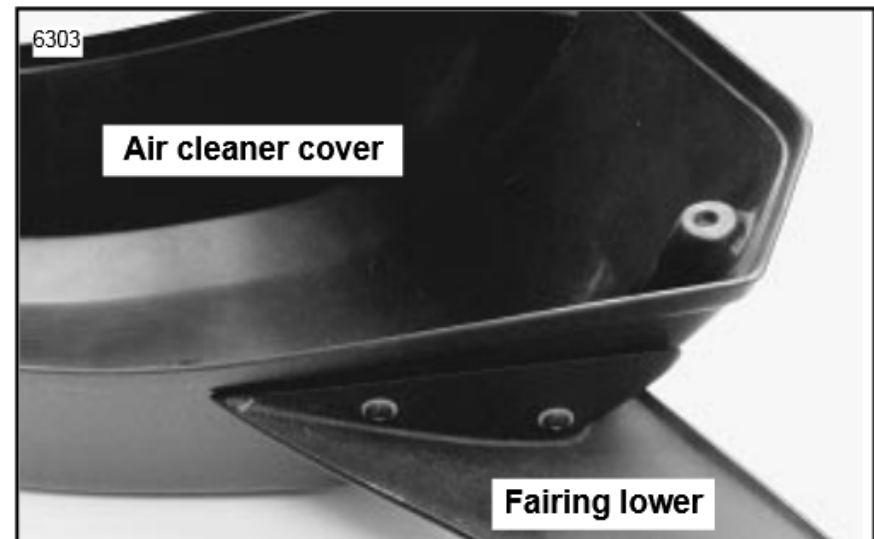

Figure 2. Right Fairing Lower Attachment
3. See Figure 2. Attach right fairing lower to air cleaner cover with well nuts, washers, and screws as shown.